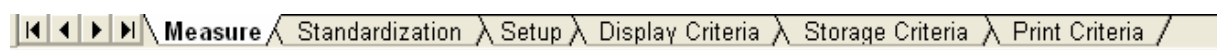

Figure 33 : Channel related tabs
5. Click any of the tabs shown in the bottom of the workspace to switch to other screens (such as standardization, setup etc) of the selected parameter. (Figure 33).
6. Click any of the tabs shown in the bottom of the workspace to switch to other screens of the selected channel/parameters (Figure 33).